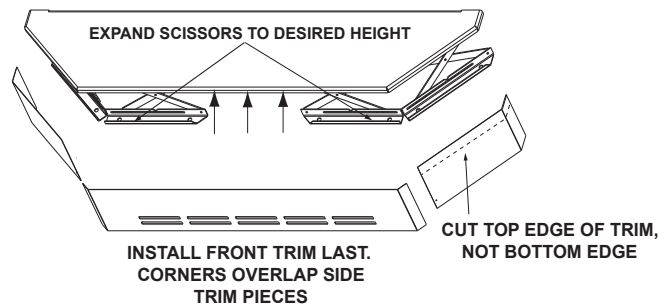

Figure 23.2
2. Expand scissors to desired height. Tighten screws to hold in place using Phillips Head screwdriver (**Figure 23.2**).
3. Measure front and side trims to required height to cover scissors and mark pieces for cutting. Cut excess material from top of trims edge, not bottom. This edge will be sharp; wear gloves to prevent injury to your hands (**Figure 23.2**).